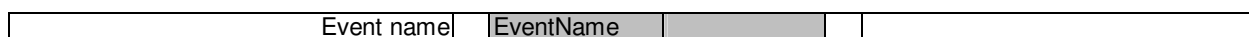

Figure 3-1. Function Block, Complete symbol
- A Function Block, which is handled in the same way as other Function Blocks in the ABB Controller 800M range of products. Figure 3.1 illustrates the terminals on the function block.